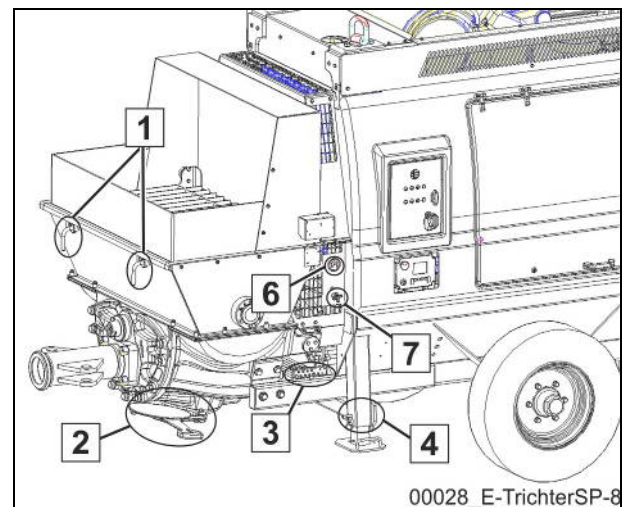

Fig. 5
- Open the shut-off valve (7) (Fig. 5) and release the operating pressure on the pressure gauge (6).